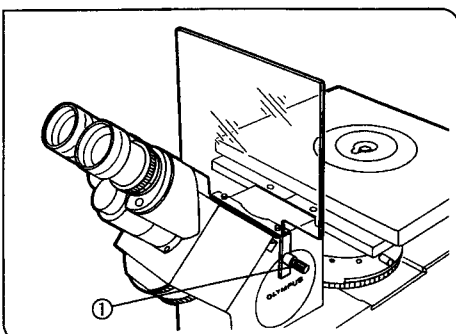

Fig. 18
## 11 Mounting the UV Protective Shield (Fig. 18)
1. Rotate the clamping knob (1) on the UV protective shield to loosen the knob.
2. Place the UV protective shield on the microscope frame's observation tube holder as shown in Fig. 18.